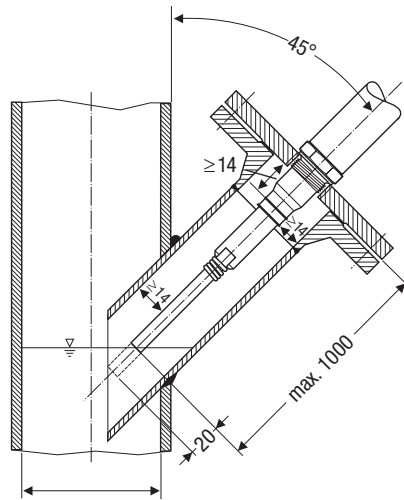

Fig. 17 Inclined installation, e. g. in ascending inlet lines of hot-water installations or vessels
- The angle of inclination of the electrode must not exceed 45°, with the length of the electrode rod being limited to 1000 mm. **Fig. 17, 21**
- For outdoor installations please use level electrode NRG 1...-50 F. Level electrodes with this suffix (F) feature a terminal box made from aluminium.